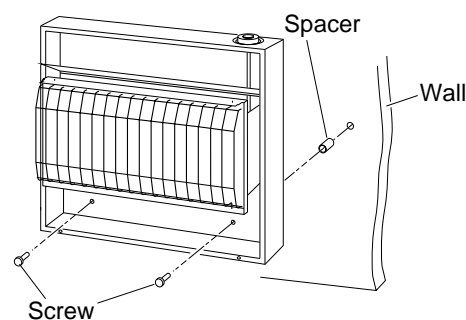

Figure 11 - Installing Bottom Mounting Screws
1. Locate two bottom mounting holes. These holes are near bottom on back panel of heater (see Figure 11).
6. Place spacers between bottom mounting holes and wall anchor or drilled hole (see Figure 11).